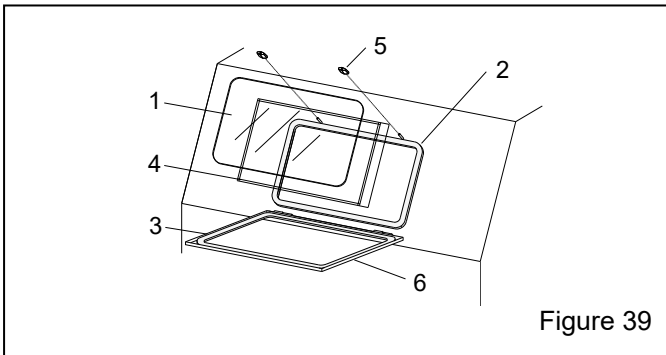

Figure 39
9.5 View-Window Assembly – Figure 39